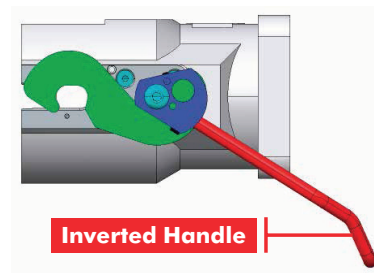

Figure 3
7. Reinstall handle in the inverted position and tighten set screws. (See Figure 3)